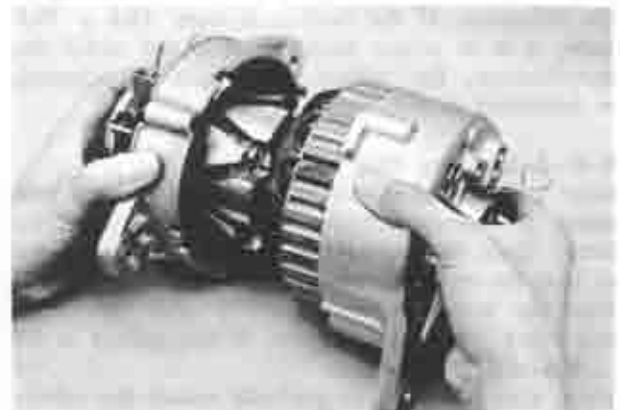

Fig. 5-12 Installing rotor assembly
1. When installing the rotor assembly to the rear housing and stator assembly, hold the brushes in position by inserting a piece of stiff wire into the hole of the brush through the rear housing as shown in Fig. 5-12.